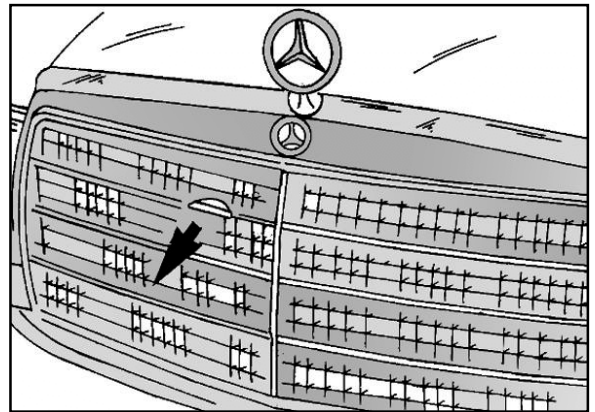
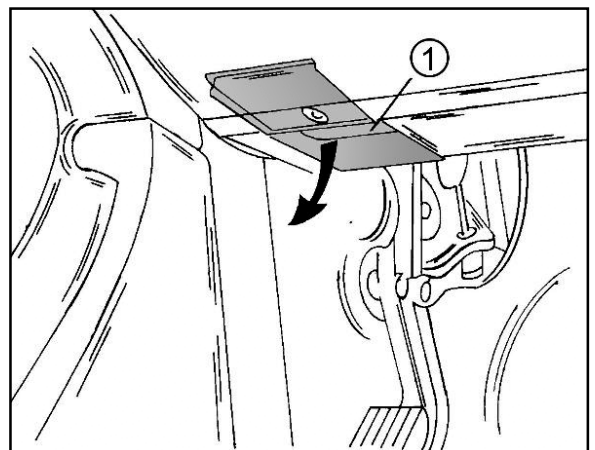

Fig. 1.4 – The arrow points to the locking lever for the engine bonnet in the centre of the radiator grille.
Fig. 1.5 – The locking lever (1) must be moved as described to lock the engine bonnet in the vertical position.
- Place suitable covers over both wings to prevent damage to the paintwork. Bring the engine bonnet into vertical position. To do this, lift the bonnet until the L.H. side engages with the lock. The safety hook of the bonnet is located in the centre of the radiator grille at the position shown in Fig. 1.4. Your Operators Manual will give you instructions how to lock the bonnet. Otherwise push the locking lever (1) in Fig. 1.5 in the direction of the arrow and lift the bonnet upwards, without allowing the lever to lock. Carry out the same operation on the R.H. side and bring the bonnet to the vertical position. Some of the operations are only referred to, i.e. "remove the radiator" will be described in section "Cooling System".